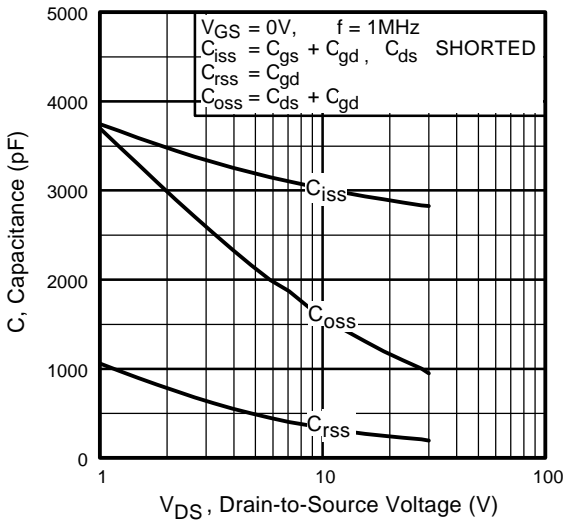

Fig 5. Typical Capacitance Vs. Drain-to-Source Voltage
| C _{rss} | Reverse Transfer Capacitance | — | 250 | — | | f = 1.0MHz, See Fig. 5 ^⑤ |